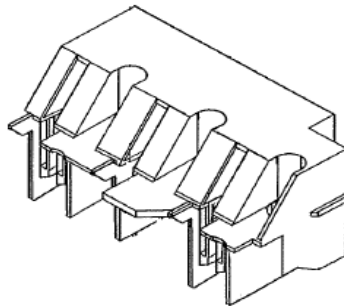

Figure 6-1 Arc Suppressor
9. Remove the arc suppressor (see Figure 6-1) from the switch by loosening the fastener holding the suppressor in place.